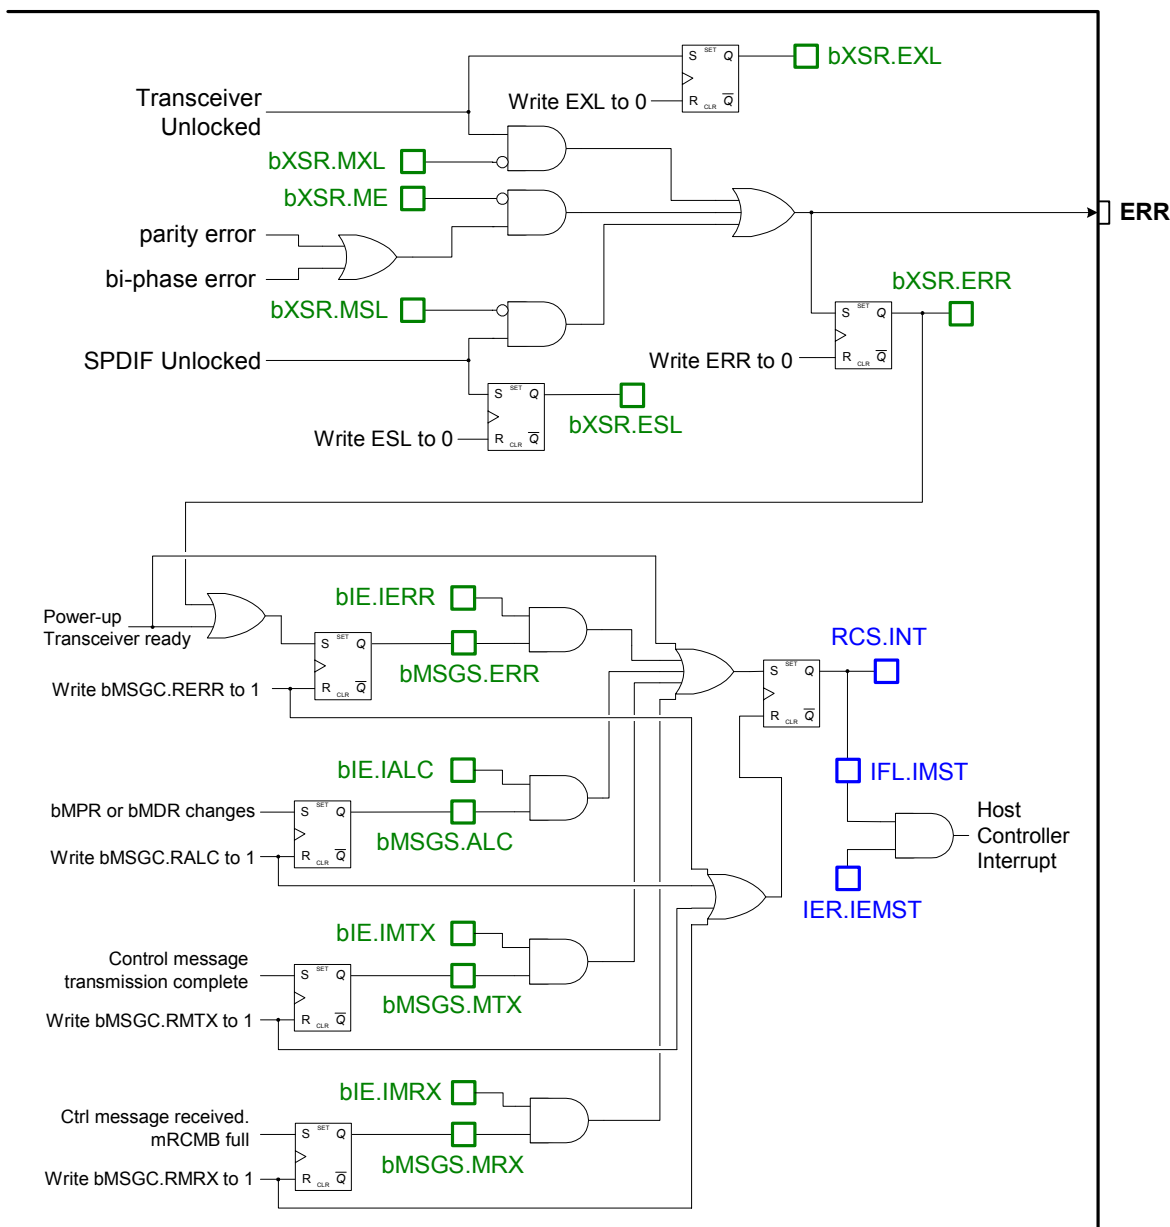

Figure 3-10: MOST Transceiver Errors and ERR Pin
- ERR** All error capture. Errors not masked by **MSL**, **MXL**, or **ME**. When set, indicates an error occurred in an unmasked error condition, or a power-on ready condition. This bit is sticky and cleared by writing a 0 to it. This bit is OR'ed with **bMSG.S.ERR**. If **bMSG.S.ERR** is set, and the interrupt enable **bIE.IERR** is set, the MOST Routing Processor will set **RCS.INT**, which can interrupt the Host Controller. See Figure 3-10.